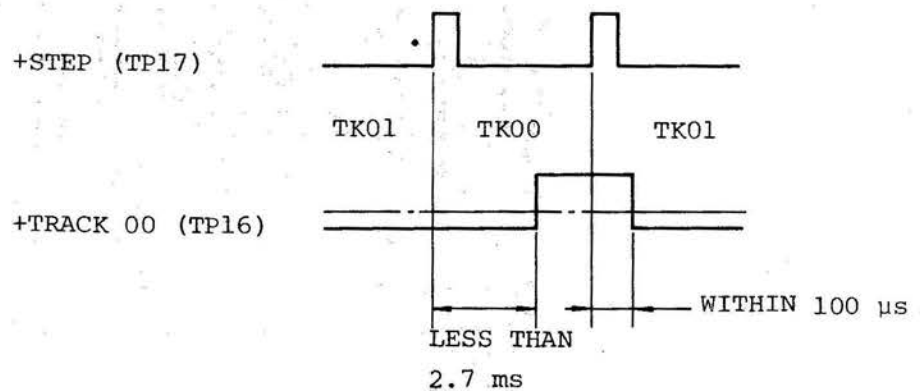

Figure 14
- ④ Repetitively seek Track 00-01 and confirm that the TP-16 timing is within tolerance. (Refer to figure 14.)